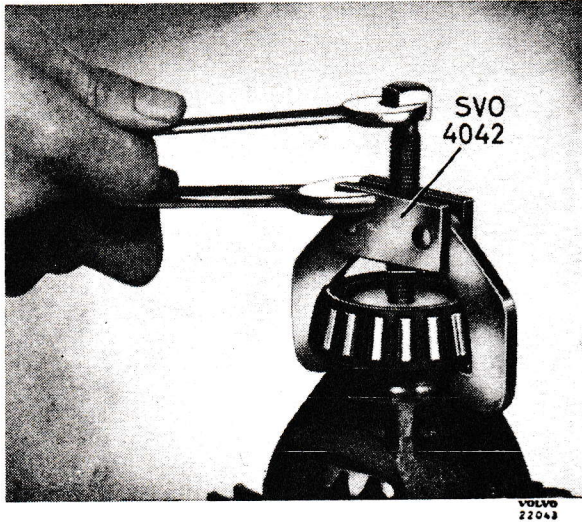

Fig. 15. Disassembling the differential case bearings.
3. Pull off the differential case bearings (1) with puller SVO 4042, see Fig. 15. Do not lose the shims (3).